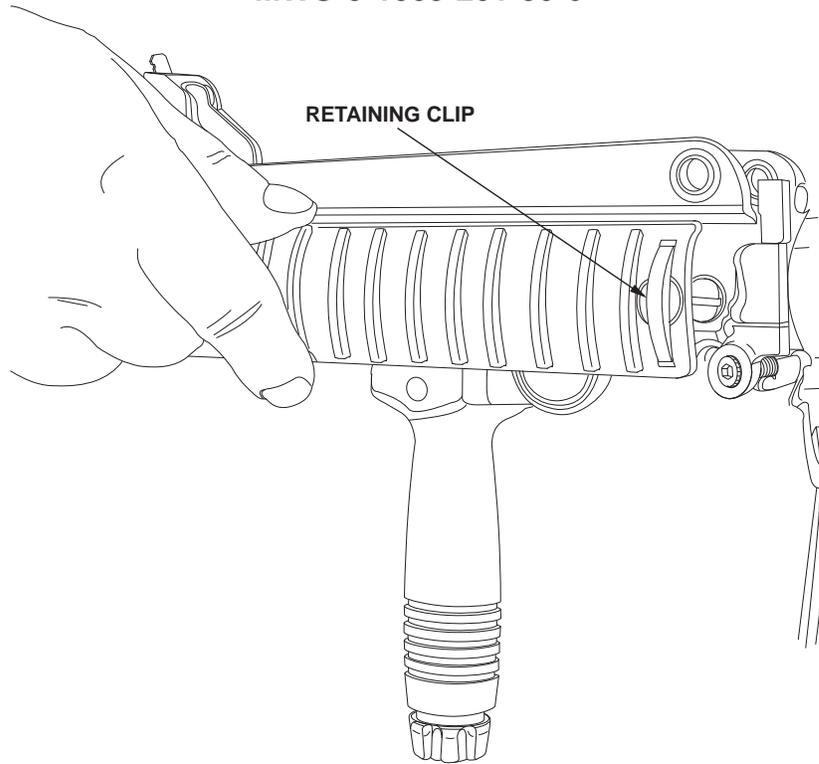

Figure 7
(Figure 7) Rail covers are quickly attached and detached from the adapter rail. A retaining clip at one end of each rail cover automatically engages cutouts positioned at either end of the three rail sections. To slide a rail cover beyond a cutout, or to remove it, slide it in the desired direction while applying thumb pressure to the retaining clip. Illustration above shows rail cover in full rearward position.
(9) (Figure 7) To cover both side rail surfaces, install the rail covers from the muzzle end of the adapter rail with the retaining clip forward. To cover the bottom rail surface, install from the rear with the retaining clip forward.
(10) Replace the barrel assembly back into the receiver. Take the safety off. Pull the trigger by holding the charging handle back to allow the bolt to go forward.